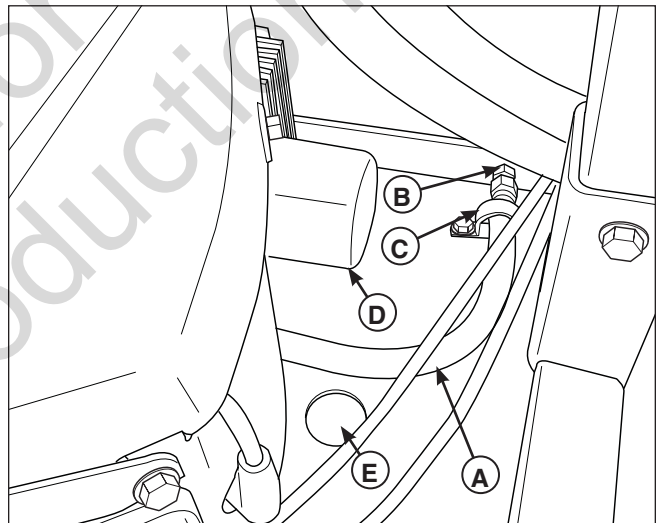

Figure 20. Engine Oil Drain
2. Remove the oil drain hose (A, Figure 20) from the cable clamp (C) that is located on the engine deck on the right-hand side of the frame. Place the drain hose down through the hole (E) in the engine deck.
3. Place a small pan under the oil drain hose to catch the oil. Using the appropriate tools, remove the cap (B) from the oil drain hose (A) and drain the engine oil into the pan.